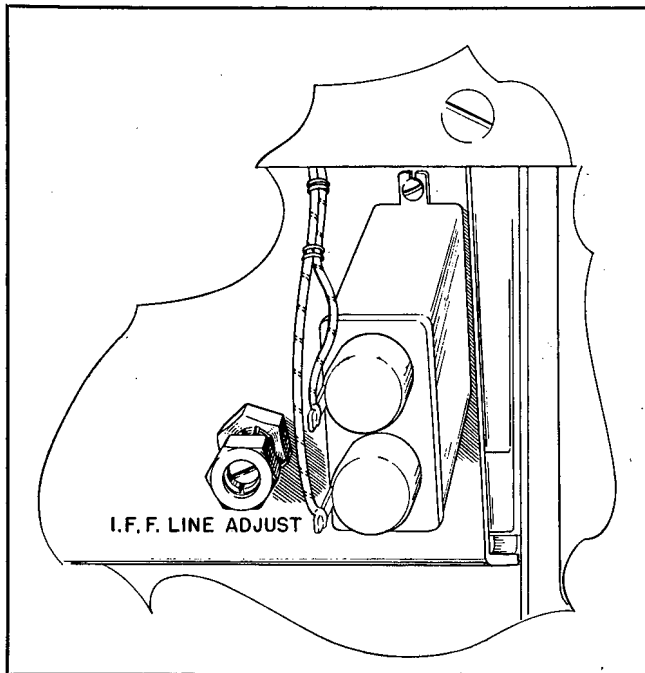

Figure 7-107. IFF Line Adjust Control
(1) With the CHALLENGE switch on the IFF Coordinator in its ON position, two sweeps should appear on the Range Scope. One sweep should be above the etched line (preferably three-eighths of an inch) and the other sweep should be below the etched line. The markers should appear on the upper or radar sweep. If they appear on the lower sweep or if there is not sufficient separation, pull the chassis forward and adjust the IFF LINE ADJUST control R-6026 until the sweeps are properly located. This control is located on the rear of the righthand deck and is shown in Fig. 7-107.